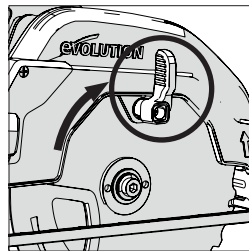

Fig. 5
- Rotate the lower blade guard up into the upper blade guard using the manual thumb lever. (Fig. 5)